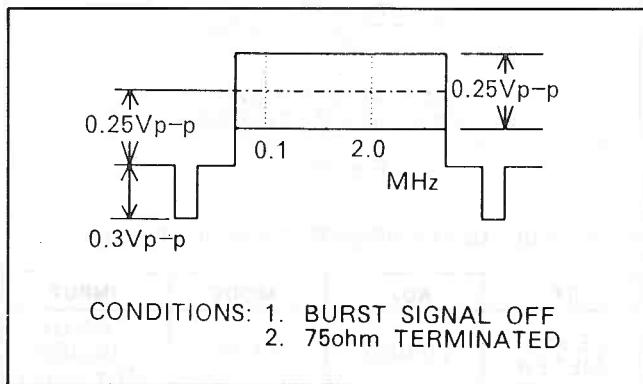

Fig. E10
- Set the Video Sweep Generator output as shown in Fig. E10.